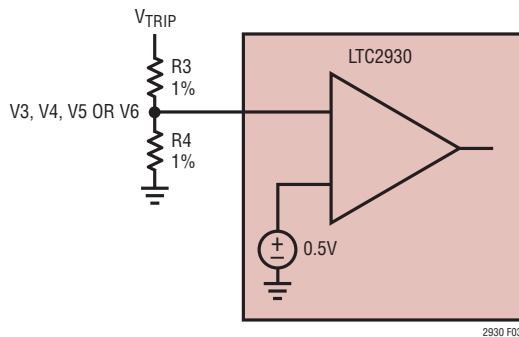

Figure 3. Setting the Positive Adjustable Trip Point
The reference inputs on the V3 and/or V4 comparators are set to 0.5V when the positive adjustable modes are selected (Figure 3). The reference inputs on the V5 and V6 comparators are always set to 0.5V. The tap point on an external resistive divider, connected between the positive voltage being sensed and ground, is connected to the high impedance, adjustable inputs (V3, V4, V5, V6). Calculate the trip voltage from:
* See Figure 3.